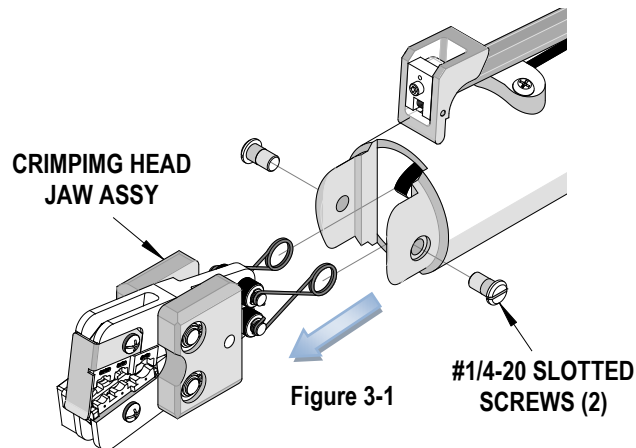

Figure 3-1
2. Remove the (2) #1 /4-20 slotted screws on both sides of the power unit. Pull the crimp tool head jaw assembly out of the tool. See Figure 3-1.
For the new style crimp head tools, if the insulation part of the crimp needs to be adjusted, first loosen the M4 screw on the bottom tool jaw, then insert a 3/32" Hex wrench (supplied) into the bottom of the lower die. See Figure 3.1. A clockwise (CW) rotation decreases the insulation crimp while a counter-clockwise (CCW) rotation increases the insulation crimp. After adjusting retighten the M4 screw.